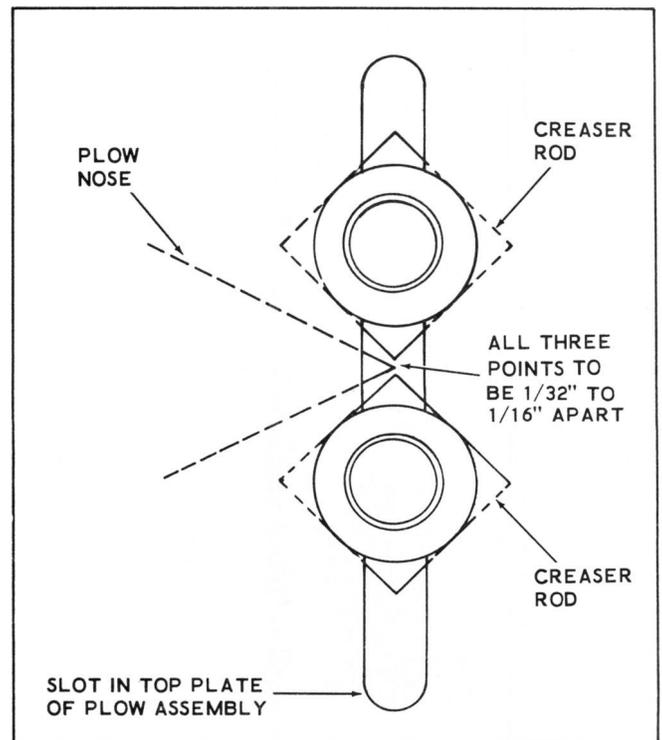

Figure 3-13. Adjusting Creaser Rods
- b. Move creaser rods to within 1/32 to 1/16 inch of point of gusset blade (or Vee plow nose) as shown in Figure 3-13. The view shown in Figure 3-13 is found by looking downward through slot in top plate of plow assembly.